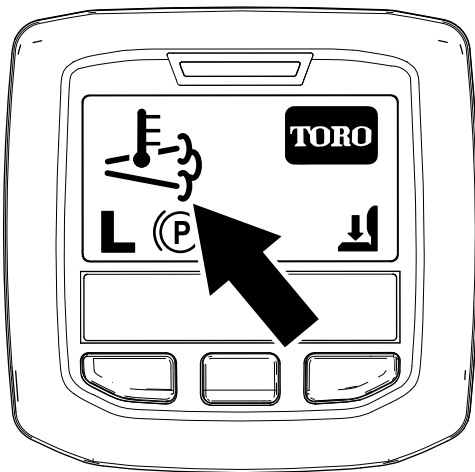

Figure 46
- The high exhaust-temperature icon  displays in the InfoCenter (Figure 46).